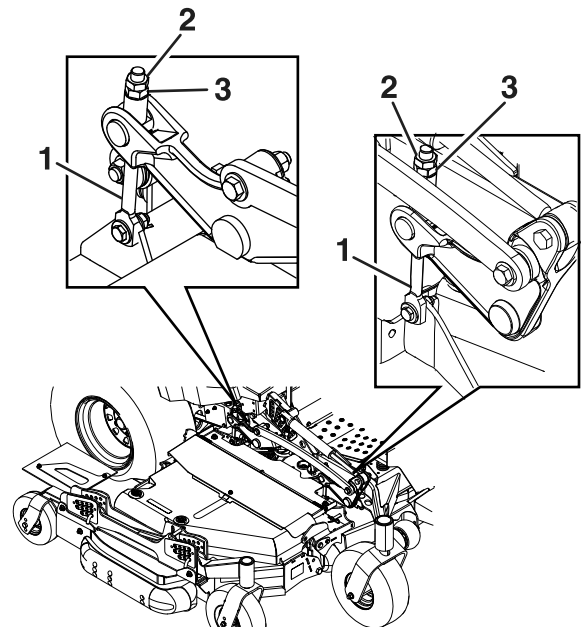

Figure 75
Loosen the jam nuts on the top of each deck adjuster. Fine-tune the adjuster on the front deck-lift assembly by turning it to get the correct height for the left and right, front blade tips on the center deck (Figure 75).
5. If the 4 deck adjusters (Figure 75) do not have enough adjustment to achieve the accurate height of cut with the desired rake, you can utilize the single-point adjustment to gain more adjustment.
6. To adjust the single-point system, first loosen the front and rear height-of-cut plate mounting bolts (Figure 75)